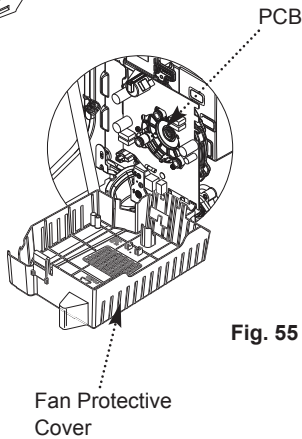

Fig. 55
3. Taking care not to touch the PCB components, disconnect the electrode lead, earth lead, mains power cable and the main sensor harness from the board. Re-engage the fan protective cover (Fig. 55).